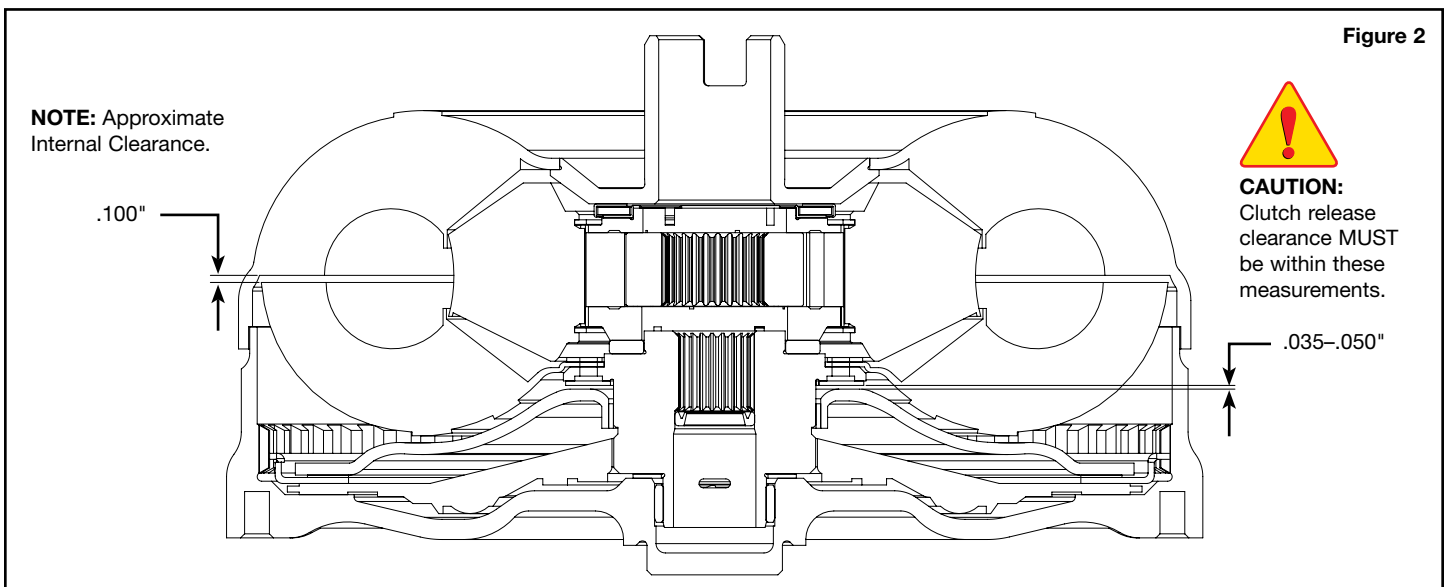

Figure 2
- e. Check clutch release clearance recommended at .035–.050" (**Figure 2**).
- f. Check internal clearance recommended at approximately .100" (**Figure 2**).